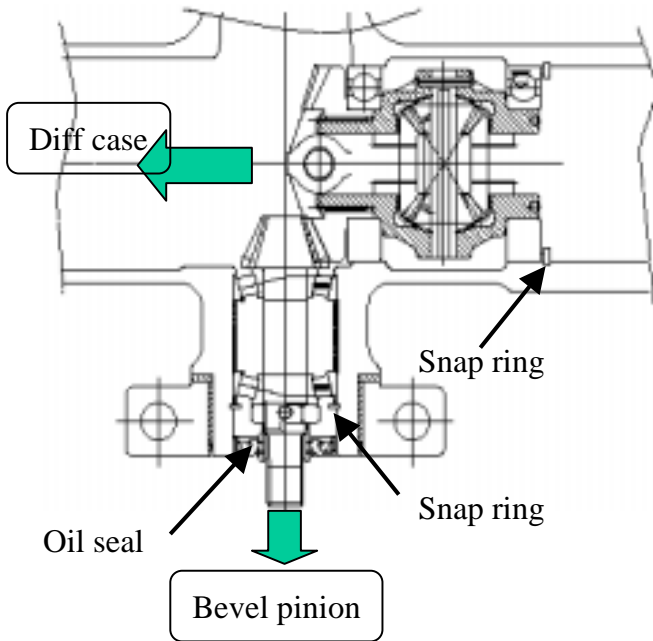

Fig.6-11
- 4) remove both final case assembly (A and B) from the front axle( Fig.6-11)
- 8) Remove the snap ring and the bevel pinion can then be removed together with the TRB's (Fig.6-11)